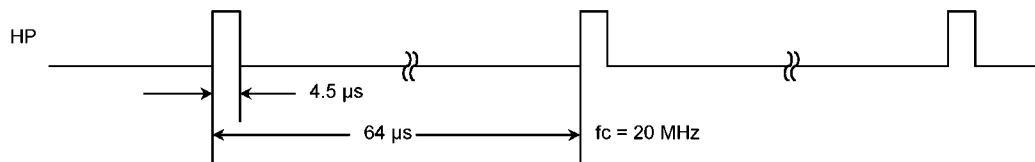

Figure 3.14.5 Wave form of HP signal output
H.Pulse Generator generates serrated pulse (HP signal) to mix with pseudo-V.SYNC. The timing to mix pseudo-V.SYNC with HP signal is controlled by TPG02 from the Timing pulse generator 0 (TPG0) (Refer to section 3.15 Pseudo-sync signal output circuit). By setting <HSEN> in CSYNC control register (CSYNCR) to 1, HP signal can be synchronized with the H.SYNC signal, outputted from H/V Separator, during TPG02 is "L". In case that <HSEN> is 0, HP signal is not synchronized with C.SYNC signal input. Wave form of the HP signal output is shown in Figure 3.14.5.